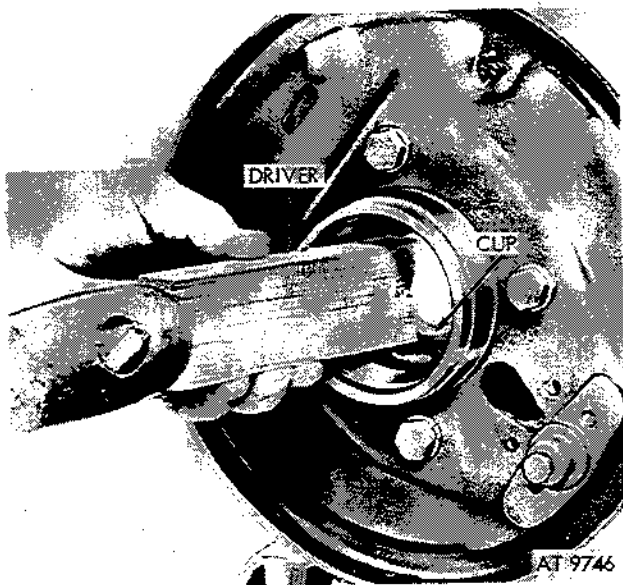
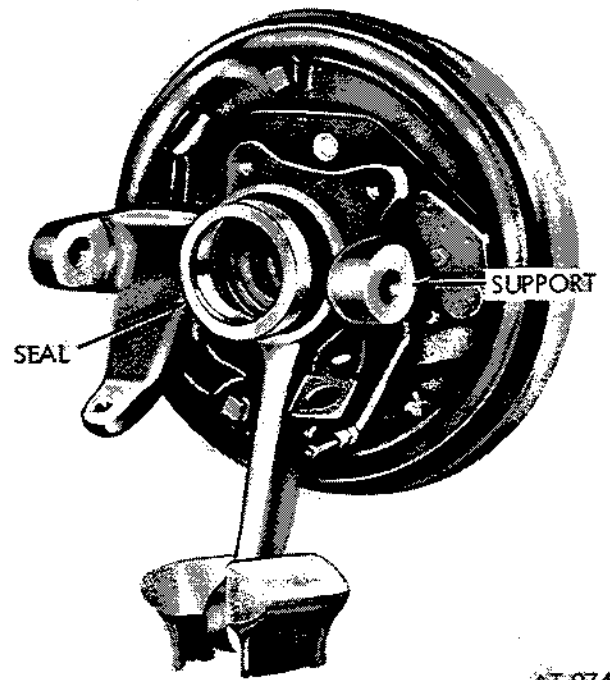
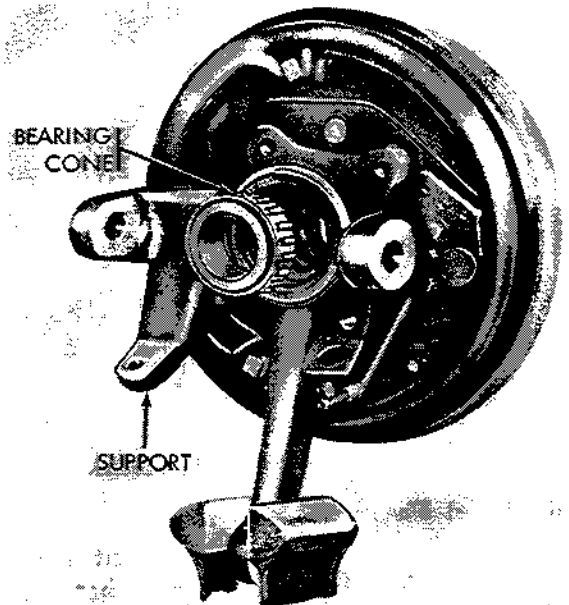

Figure 2-323. Loosen bearing cup and seal.
Figure 2-324. Remove seal from support.
Figure 2-325. Remove bearing and cone from support.
(1) Remove wheel spindle (para 2-138), drive flange (para 2-139) and support (para 2-140).
(2) Loosen inner bearing cup and seal using a block of wood or a brass drift (fig. 2-323).
(3) Remove seal (fig. 2-324), bearing and cone (fig. 2-325) and bearing cup (fig. 2-323) from support.
b. Installation. Install wheel inner seal, bearing and cup as given in operations (1) through (6) below.
(3) Pack bearing cone with grease (GAA) and position in bearing cup (fig. 2-325).
(4) Coat outside seating surface of seal with compound sealer MIL-S-45180 (FSN 8030-656-1426) and coat lips of seal with grease (GAA). Position seal in support (fig. 2-325).